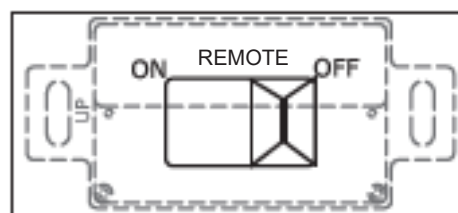
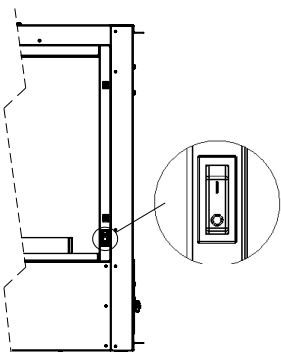

Figure 26A - Control Switch in OFF Position
Figure 27 - Power Switch
4. Set the Power Switch (behind Front Screen, Figure 27, page 20), and Control Switch to the **OFF** positions (Figure 26A).
6. Wait five (5) minutes to clear out any gas